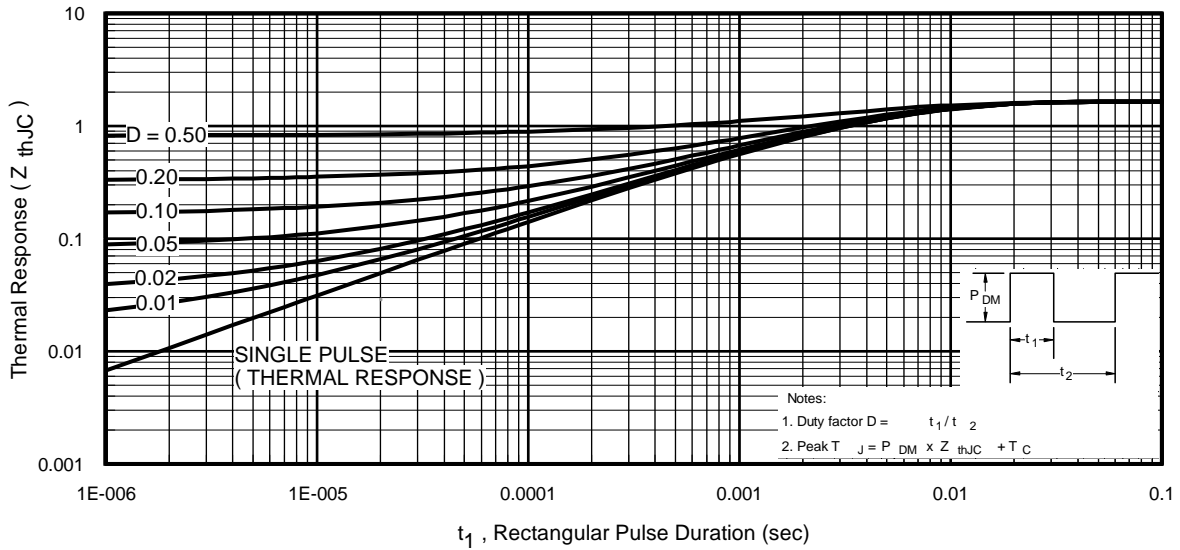

Fig 11. Maximum Effective Transient Thermal Impedance, Junction-to-Case
- ① Repetitive rating; pulse width limited by max. junction temperature. (See fig. 11).
- ② Limited by T_{Jmax} , starting $T_J = 25^\circ\text{C}$, $L = 0.46\text{mH}$, $R_G = 25\Omega$, $I_{AS} = 20A$, $V_{GS} = 10V$. Part not recommended for use above this value.
- ③ $I_{SD} \leq 20A$, $di/dt \leq 400A/\mu s$, $V_{DD} \leq V_{(BR)DSS}$, $T_J \leq 175^\circ\text{C}$.
- ④ Pulse width $\leq 1.0\text{ms}$; duty cycle $\leq 2\%$.
- ⑤ $C_{oss\ eff.}$ is a fixed capacitance that gives the same charging time as C_{oss} while V_{DS} is rising from 0 to 80% V_{DSS} .
$Z_{thJC}(D, t_{av})$ = Transient thermal resistance, see figure 11)